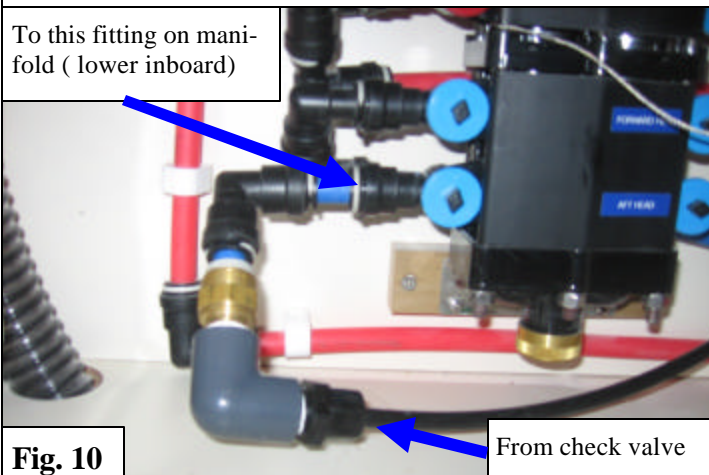

Fig. 10
6. secure the tubing to galley manifold (See figure 10 & 11). Also see attached reference documents.
1. Install black tubing to 90° then install brass nipple for 15mm blue tubing then install 15mm regular elbow then install the assembly to galley manifold lower left fitting.(See figure 10 & 11).